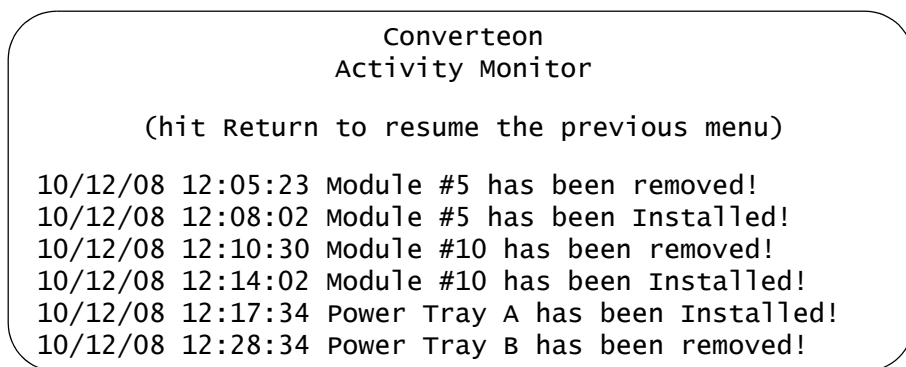

Figure 41. Activity Monitor
3. From the Administration Menu, select **Activity Monitor** to display the monitor. An example of the Activity Monitor is shown in Figure 41. The monitor displays the messages as they occur on the line cards in the chassis.